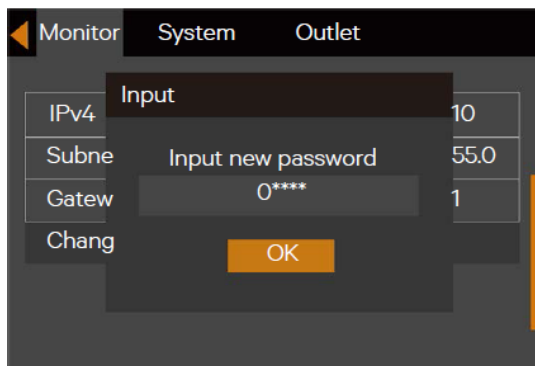

Figure 5-21 Inputting new password
4. Input the existing password, press the  key to confirm it, then the system requires to input a new password. See Figure 5-21.